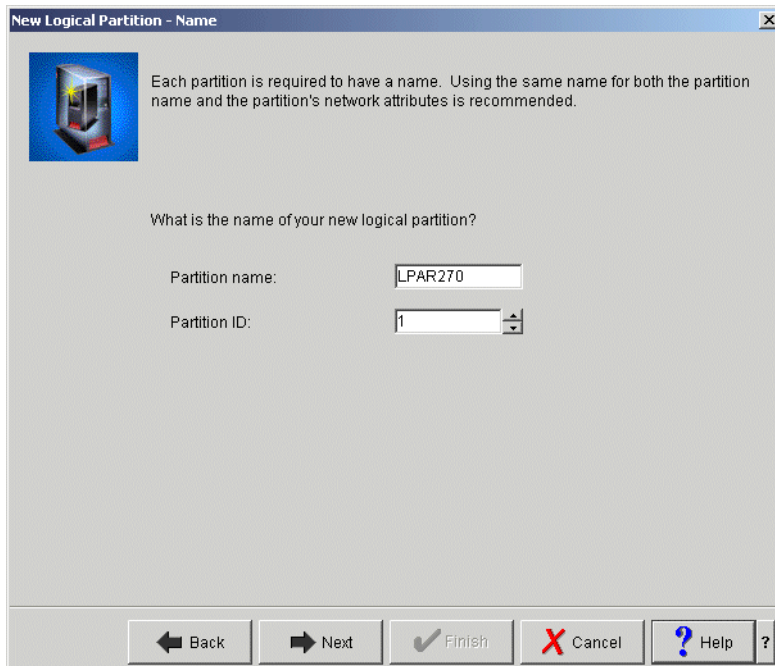

Figure 4-10 New Logical Partition - Name window
7. The New Logical Partition - Name window appears as shown in Figure 4-10. Fill in the Partition name and select a Partition ID. This ID is next in the sequence. The name can be any combination of letters, numbers, or spaces. This ID can be changed if you want to create your partitions in a different order. For example, you may want to configure partition 4 first, because you want to start loading this partition as soon as possible. Click **Next**